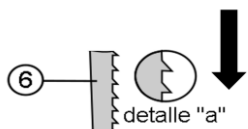
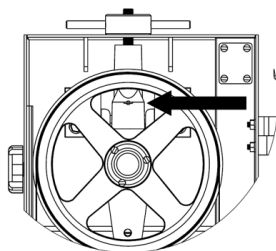
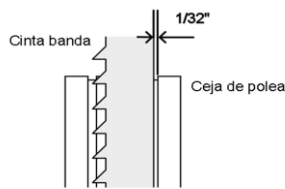

FIG. 1
FIG. 2
FIG. 3
- 2.- Installing the saw blade (6).
- a) Be sure of the direction of the cut (**teeth must face down, see detail "a" on fig 1**).
- b) Put the blade (6) on the wheels (2 & 25), into the guides (15 & 16) and into the scrapers(20).
- c) Turn the tension handle (18) clock wise until the red spot (1) is in the center of the hole (fig 2), of the tension gauge housing (31).
- d) Turn the upper wheel (2) counter clock wise 2 or 3 revolutions by hand, **very slowly and with caution** to be sure everything is ok.
- e) Be sure the blade is correctly aligned (must have a separation of 1/32" against the pulley's edge) **fig 3**
- 3.- Be sure that the pulleys (2 & 25) and blade (6) run free of objects.